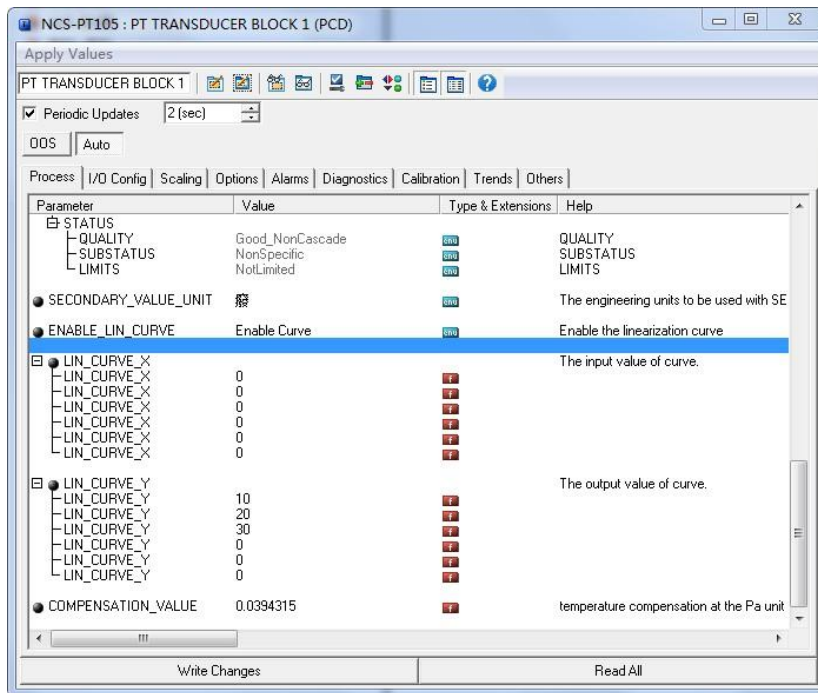

Figure 6.4 IN\_CURVE\_Y Configuration
- 1) The intelligent transmitter provides six correction point inputs, namely the parameter LIN\_CURVE\_Y array of the transformation block, and the user can successively write the calibrated pressure value to the array and select good units. For example, when performing a three-point interpolation calibration, the user selects 10 kPa, 20 kPa, and 30 kPa as the calibration points and writes the three values in the LIN\_CURVE\_Y array, as shown in Figure 6.4.